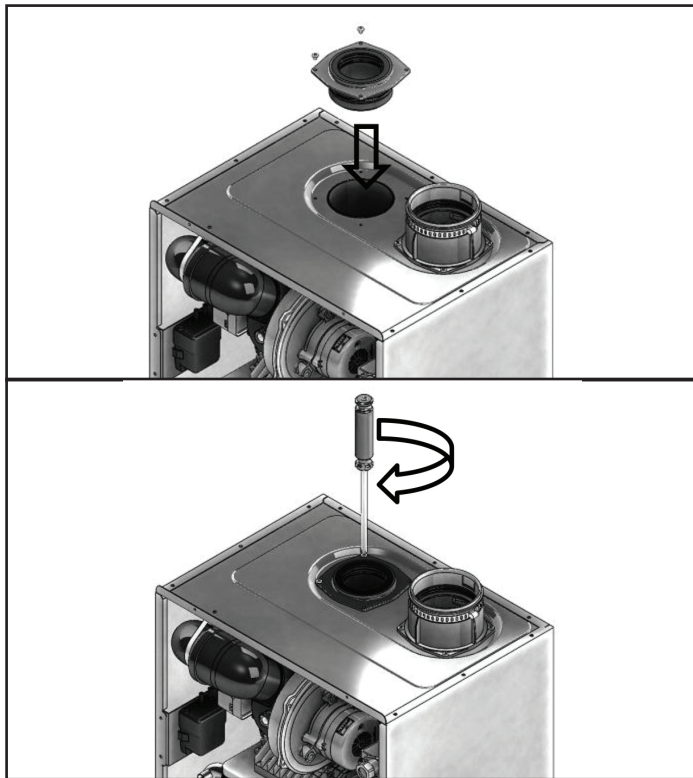

Figure 7 - Installing the Exhaust Vent Adapter
2. Use a Phillips Head screwdriver to install the exhaust vent adapter into the top of the water heater. See Figure 7.